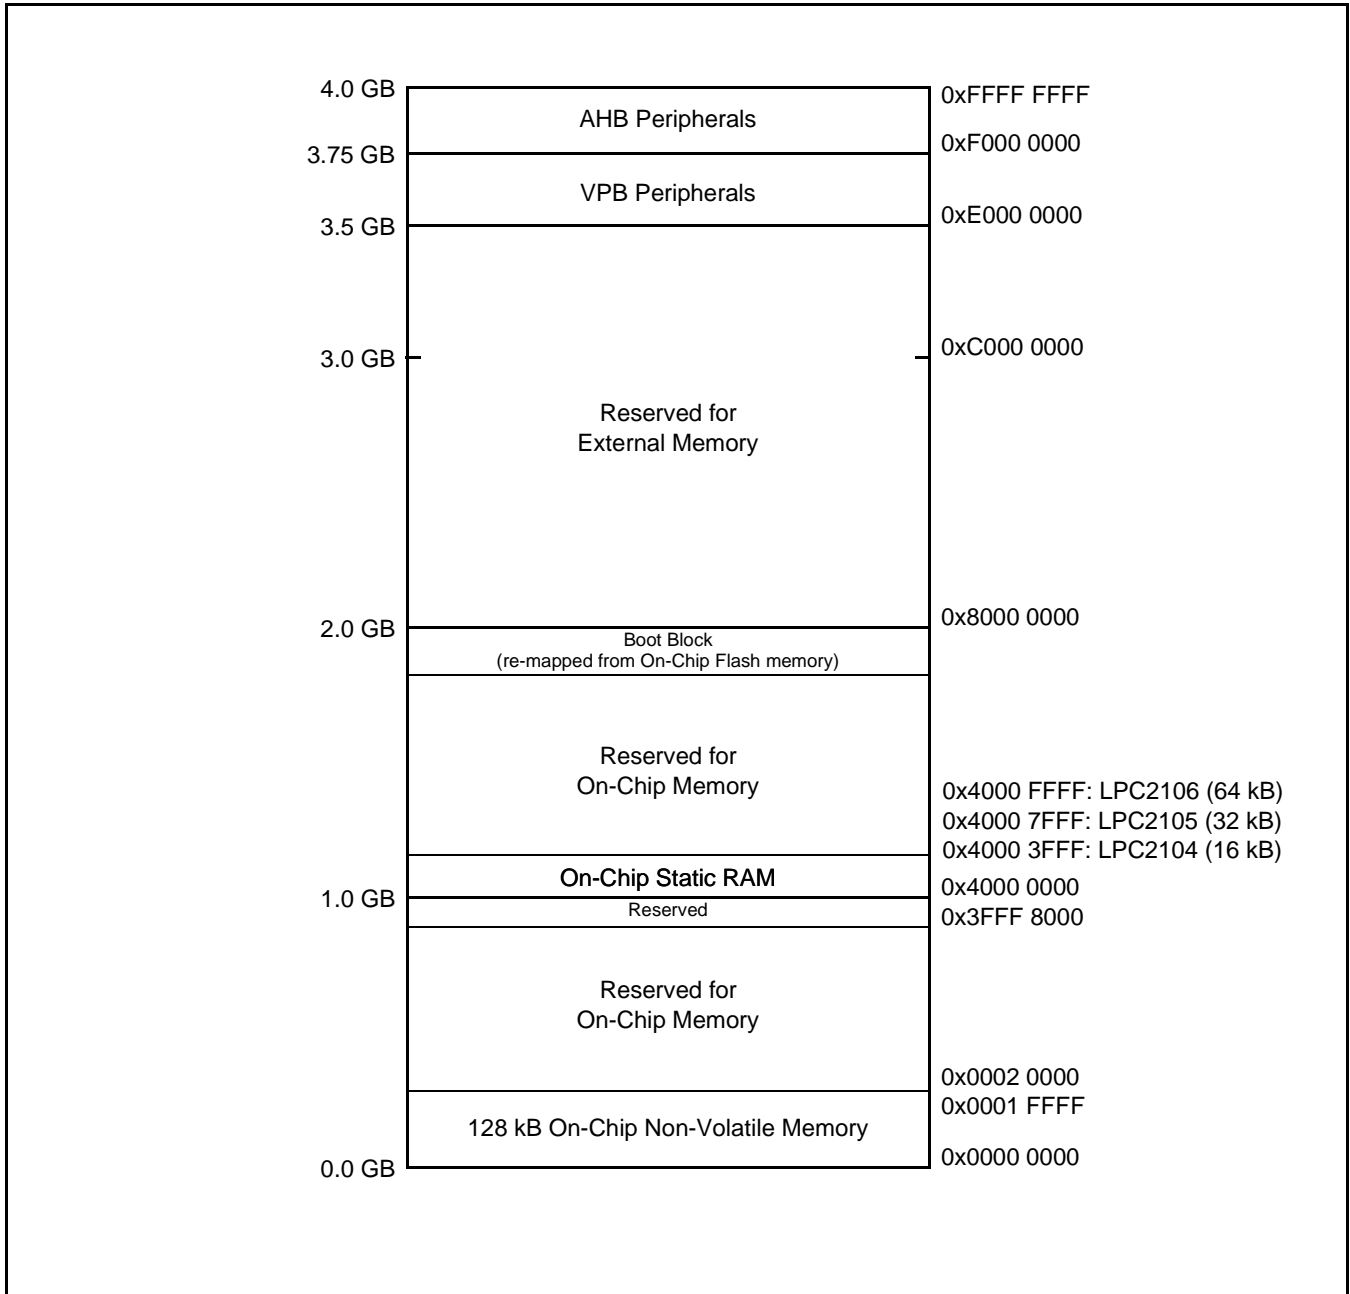
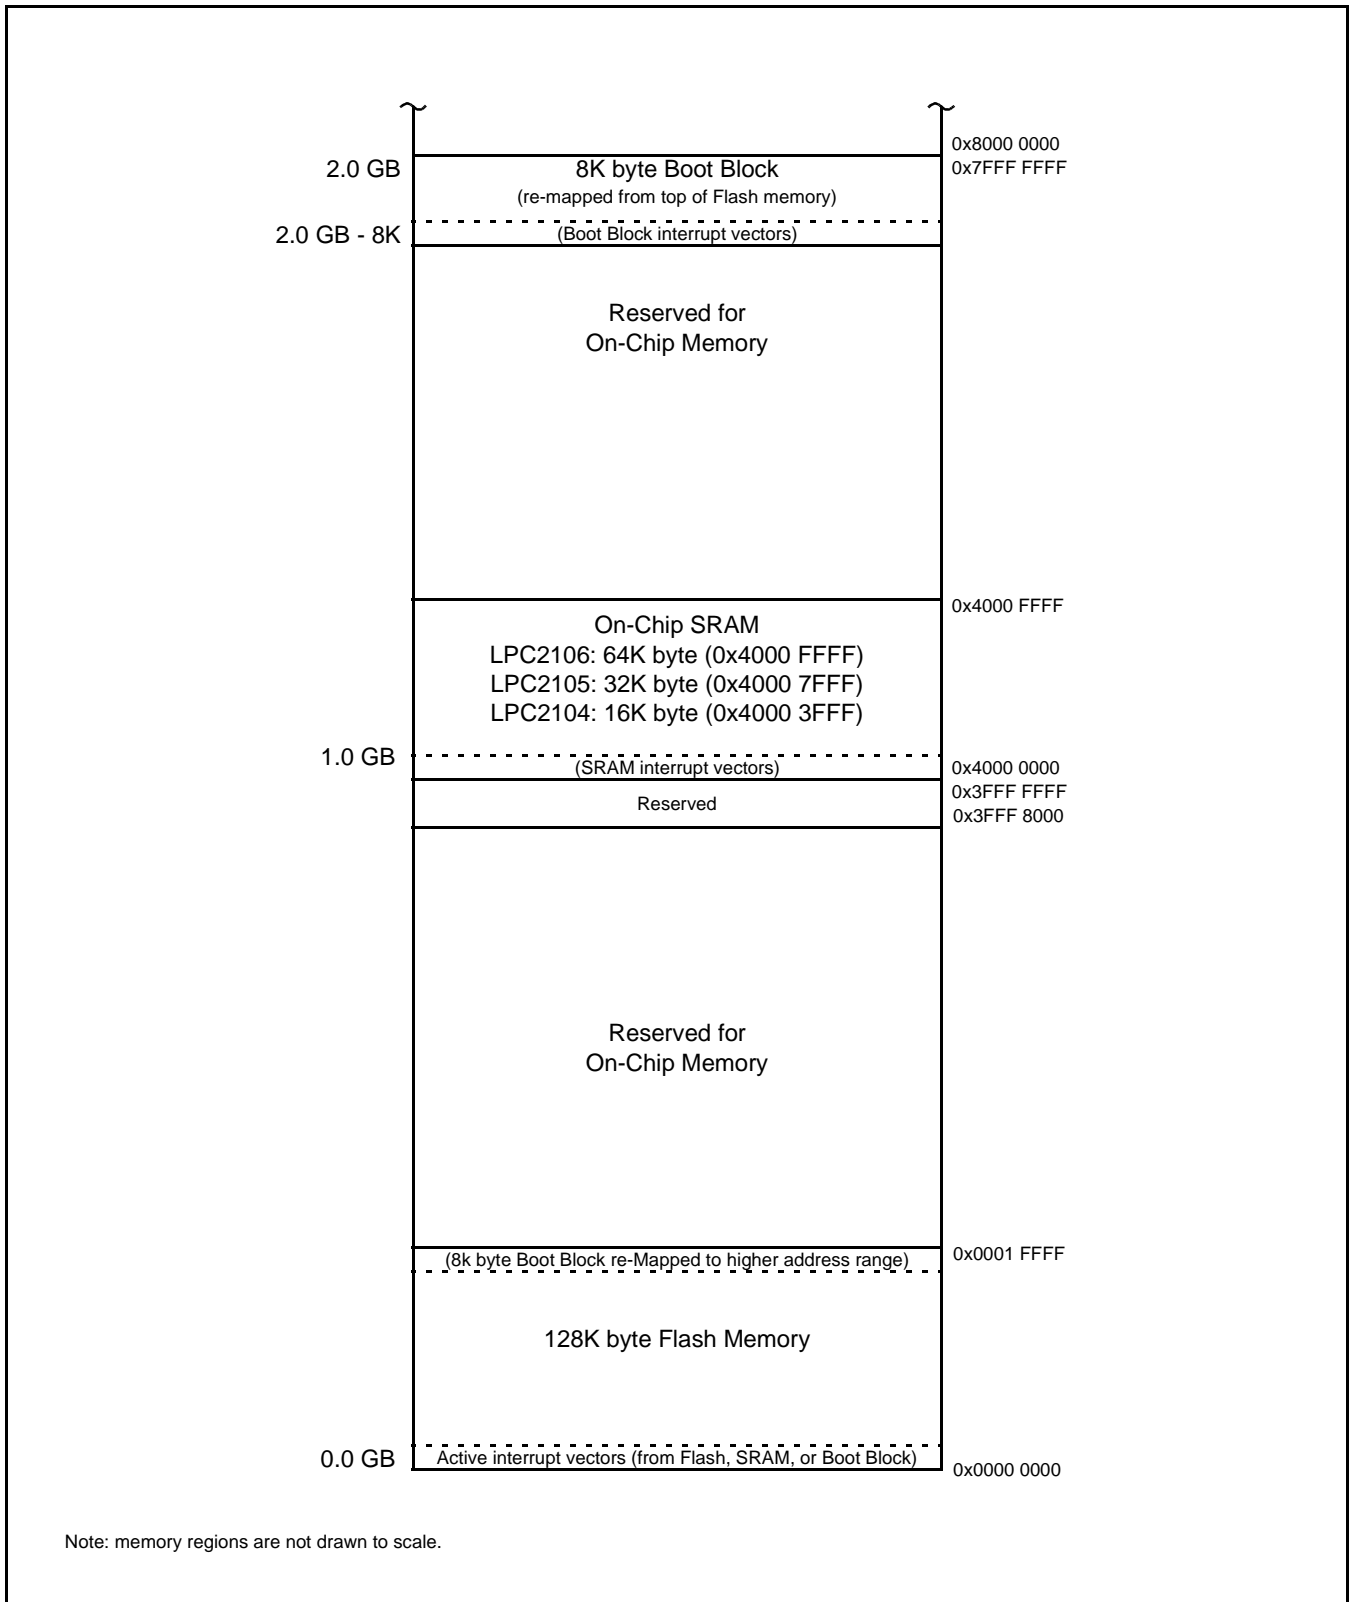

Figure 2: System Memory Map
Figure 6: Map of lower memory are showing re-mapped and re-mappable areas.
In order to allow for compatibility with future derivatives, the entire Boot Block is mapped to the top of the on-chip memory space. In this manner, the use of larger or smaller flash modules will not require changing the location of the Boot Block (which would require changing the Boot Loader code itself) or changing the mapping of the Boot Block interrupt vectors. Memory spaces other than the interrupt vectors remain in fixed locations. Figure 6 shows the on-chip memory mapping in the modes defined above.
- Address space between On-Chip Non-Volatile Memory and the Special registers. Labelled "Reserved for On-Chip Memory" in Figure 2 and Figure 6.
- Address space between On-Chip Static RAM and External Memory. Labelled "Reserved for On-Chip Memory" in Figure 2.